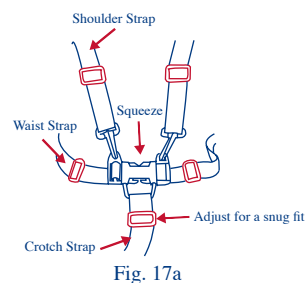

Fig. 17a
- Carefully place the child in the stroller seat and bring the safety harness around the child's waist and over the shoulders. Place the crotch strap between the child's legs. Insert the male end of each shoulder/waist belt into the buckle on the crotch strap. Tighten the harness to be snug around the child's waist and over the child's shoulders. Please see figure 17a.